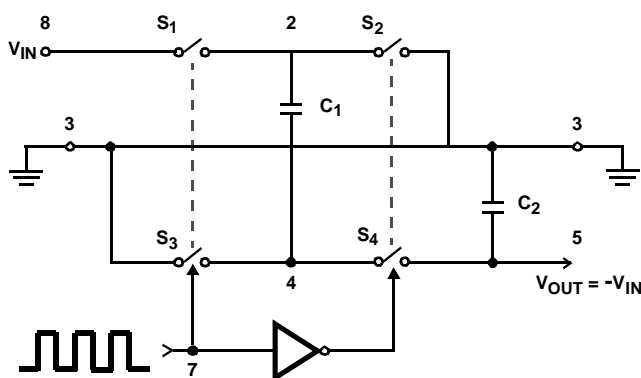
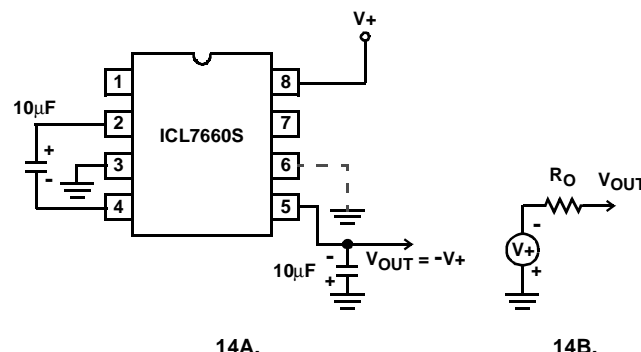
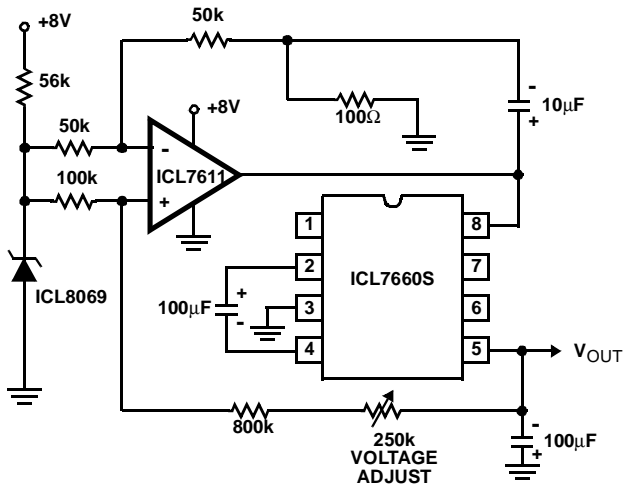
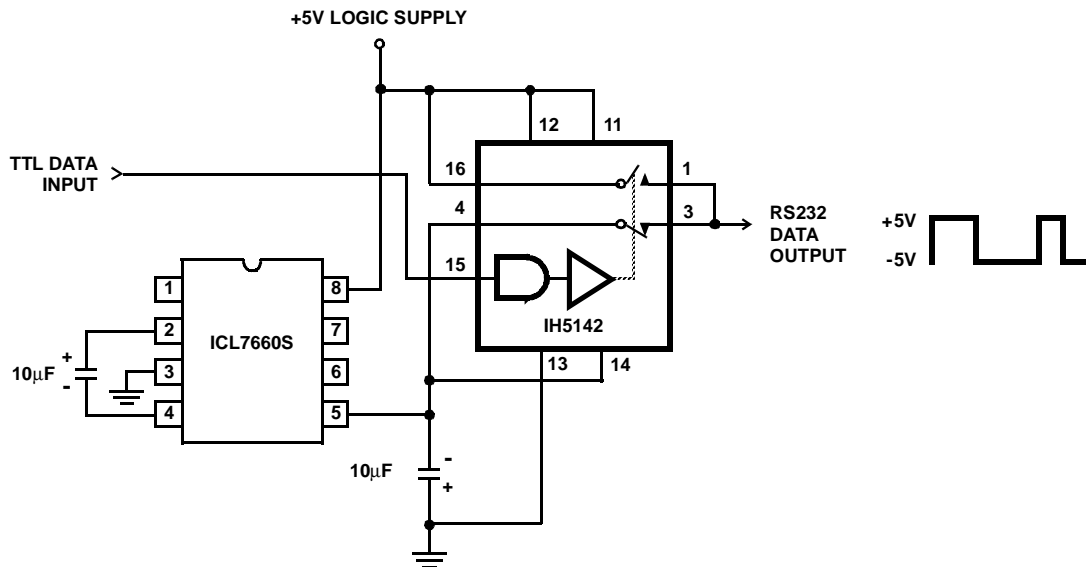

FIGURE 13. IDEALIZED NEGATIVE VOLTAGE CONVERTER
FIGURE 14. SIMPLE NEGATIVE CONVERTER AND ITS OUTPUT EQUIVALENT
FIGURE 20. REGULATING THE OUTPUT VOLTAGE
FIGURE 21. RS232 LEVELS FROM A SINGLE 5V SUPPLY
The ICL7660S contains all the necessary circuitry to complete a negative voltage converter, with the exception of 2 external capacitors which may be inexpensive 10 $\mu$ F polarized electrolytic types. The mode of operation of the device may be best understood by considering Figure 13, which shows an idealized negative voltage converter.
In the ICL7660S, the 4 switches of Figure 13 are MOS power switches;  $S_1$  is a P-Channel devices and  $S_2$ ,  $S_3$  and  $S_4$  are N-Channel devices. The main difficulty with this approach is that in integrating the switches, the substrates of
where  $V_1$  and  $V_2$  are the voltages on  $C_1$  during the pump and transfer cycles. If the impedances of  $C_1$  and  $C_2$  are relatively high at the pump frequency (refer to Figure 13) compared to the value of  $R_L$ , there will be substantial difference in the voltages  $V_1$  and  $V_2$ . Therefore it is not only desirable to make  $C_2$  as large as possible to eliminate output voltage ripple, but also to employ a correspondingly large value for  $C_1$  in order to achieve maximum efficiency of operation.
The majority of applications will undoubtedly utilize the ICL7660S for generation of negative supply voltages. Figure 14 shows typical connections to provide a negative supply where a positive supply of +1.5V to +12V is available. Keep in mind that pin 6 (LV) is tied to the supply negative (GND) for supply voltage below 3.5V.
The output characteristics of the circuit in Figure 14 can be approximated by an ideal voltage source in series with a resistance as shown in Figure 14B. The voltage source has a value of  $-(V^+)$ . The output impedance ( $R_O$ ) is a function of the ON resistance of the internal MOS switches (shown in Figure 13), the switching frequency, the value of  $C_1$  and  $C_2$ , and the ESR (equivalent series resistance) of  $C_1$  and  $C_2$ . A good first order approximation for  $R_O$  is:
The ICL7660S may be employed to achieve positive voltage doubling using the circuit shown in Figure 20. In this application, the pump inverter switches of the ICL7660S are used to charge  $C_1$  to a voltage level of  $V_+ - V_F$  (where  $V_+$  is the supply voltage and  $V_F$  is the forward voltage on  $C_1$  plus the supply voltage ( $V_+$ ) is applied through diode  $D_2$  to capacitor  $C_2$ . The voltage thus created on  $C_2$  becomes  $(2V_+) - (2V_F)$  or twice the supply voltage minus the combined forward voltage drops of diodes  $D_1$  and  $D_2$ .
Figure 21 combines the functions shown in Figure 14 and Figure 20 to provide negative voltage conversion and positive voltage doubling simultaneously. This approach would be, for example, suitable for generating +9V and -5V from an existing +5V supply. In this instance capacitors  $C_1$  and  $C_3$  perform the pump and reservoir functions respectively for the generation of the negative voltage, while capacitors  $C_2$  and  $C_4$  are pump and reservoir respectively for the doubled positive voltage. There is a penalty in this configuration which combines both functions, however, in that the source impedances of the generated supplies will be somewhat higher due to the finite impedance of the common charge pump driver at pin 2 of the device.